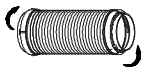
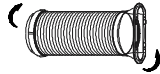

Fig. 16a
Fig. 16b
1. Install the adaptor B and adaptor I onto the exhaust hose as shown in Fig. 16a or Fig. 16b. Refer to the previous pages for window kit installation.